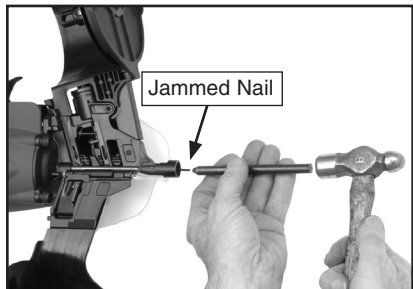

Figure 13. Tapping a jammed nail back into the magazine driving hole.
3. Use a steel rod and hammer to tap the jammed nail back into the magazine driving hole as shown in **Figure 13**.